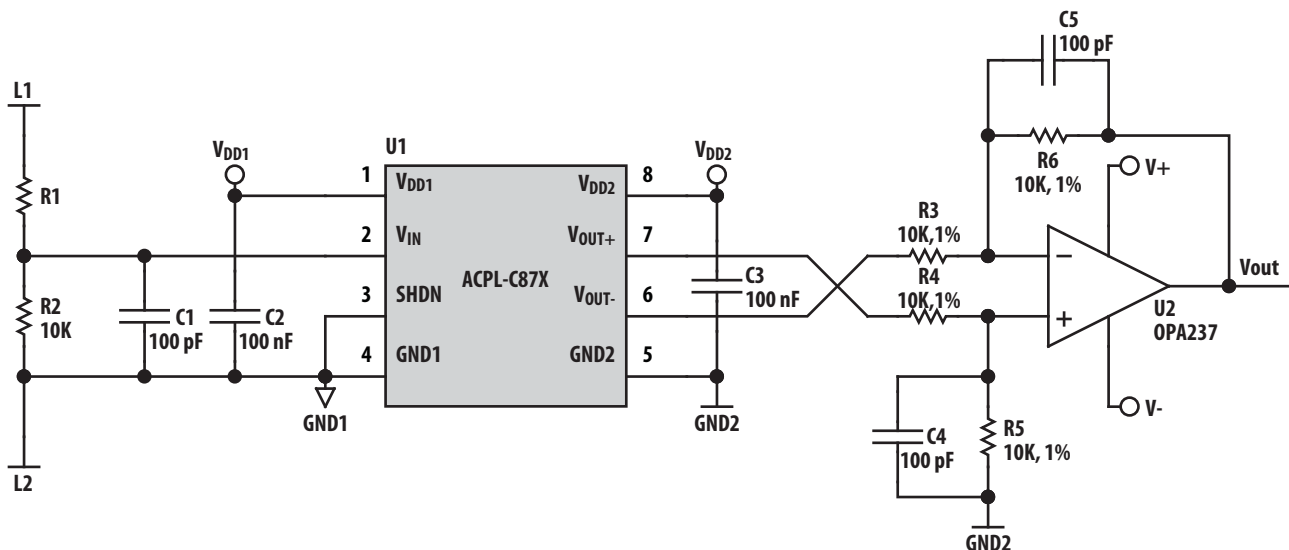
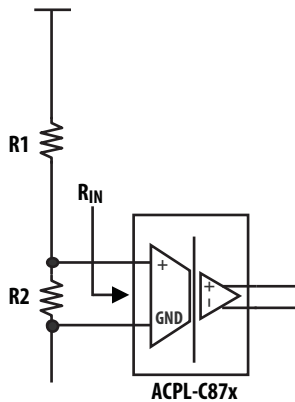

Figure 19. Typical application circuit.
Figure 20. Simplified Input Stage.
The typical application circuit is shown in Figure 19. The ACPL-C87X voltage sensor is often used in photovoltaic (PV) panel voltage measurement and tracking in PV inverters, and DC bus voltage monitoring in motor drivers. The high voltage across rails needs to be scaled down to fit the input range of the iso-amp by choosing R1 and R2 values according to appropriate ratio.
The input stage of the typical application circuit in Figure 19 can be simplified as the diagram shown in Figure 20.  $R_2$  and  $R_{IN}$ , input resistance of the ACPL-C87X, create a current divider that results in an additional measurement error component that will add on to the tot on top of the device gain error. With the assumption that  $R_1$  and  $R_{IN}$  have a much higher value than  $R_2$ , the resulting error can be estimated to be  $R_2/R_{IN}$ .